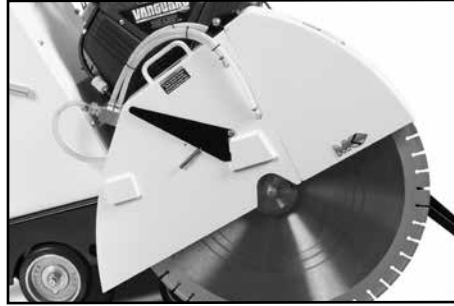

Fig. 13 Install Blade Guard
7. Install the blade guard in place. Make sure that the guard locks in place and connect the hose (Figure 13).